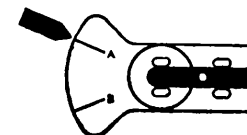

FIG. 7.
7. Replace rotor button on cam. (On top of the fan tail of rotor will be found two synchronizing marks ("A" and "B", Fig. 7) accurately spaced at an angle of 45 degrees.)